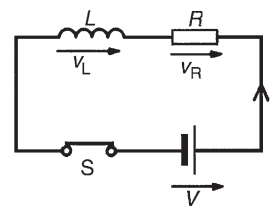

Figure 18.10
- (a) The circuit diagram for a series connected  $L-R$  circuit is shown in Fig. 18.10. When switch  $S$  is closed, then by Kirchhoff's voltage law: